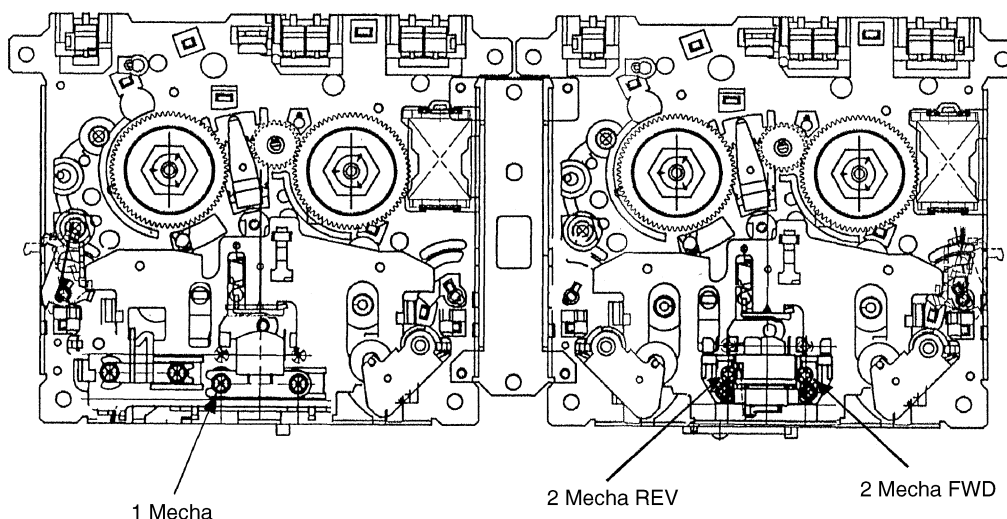
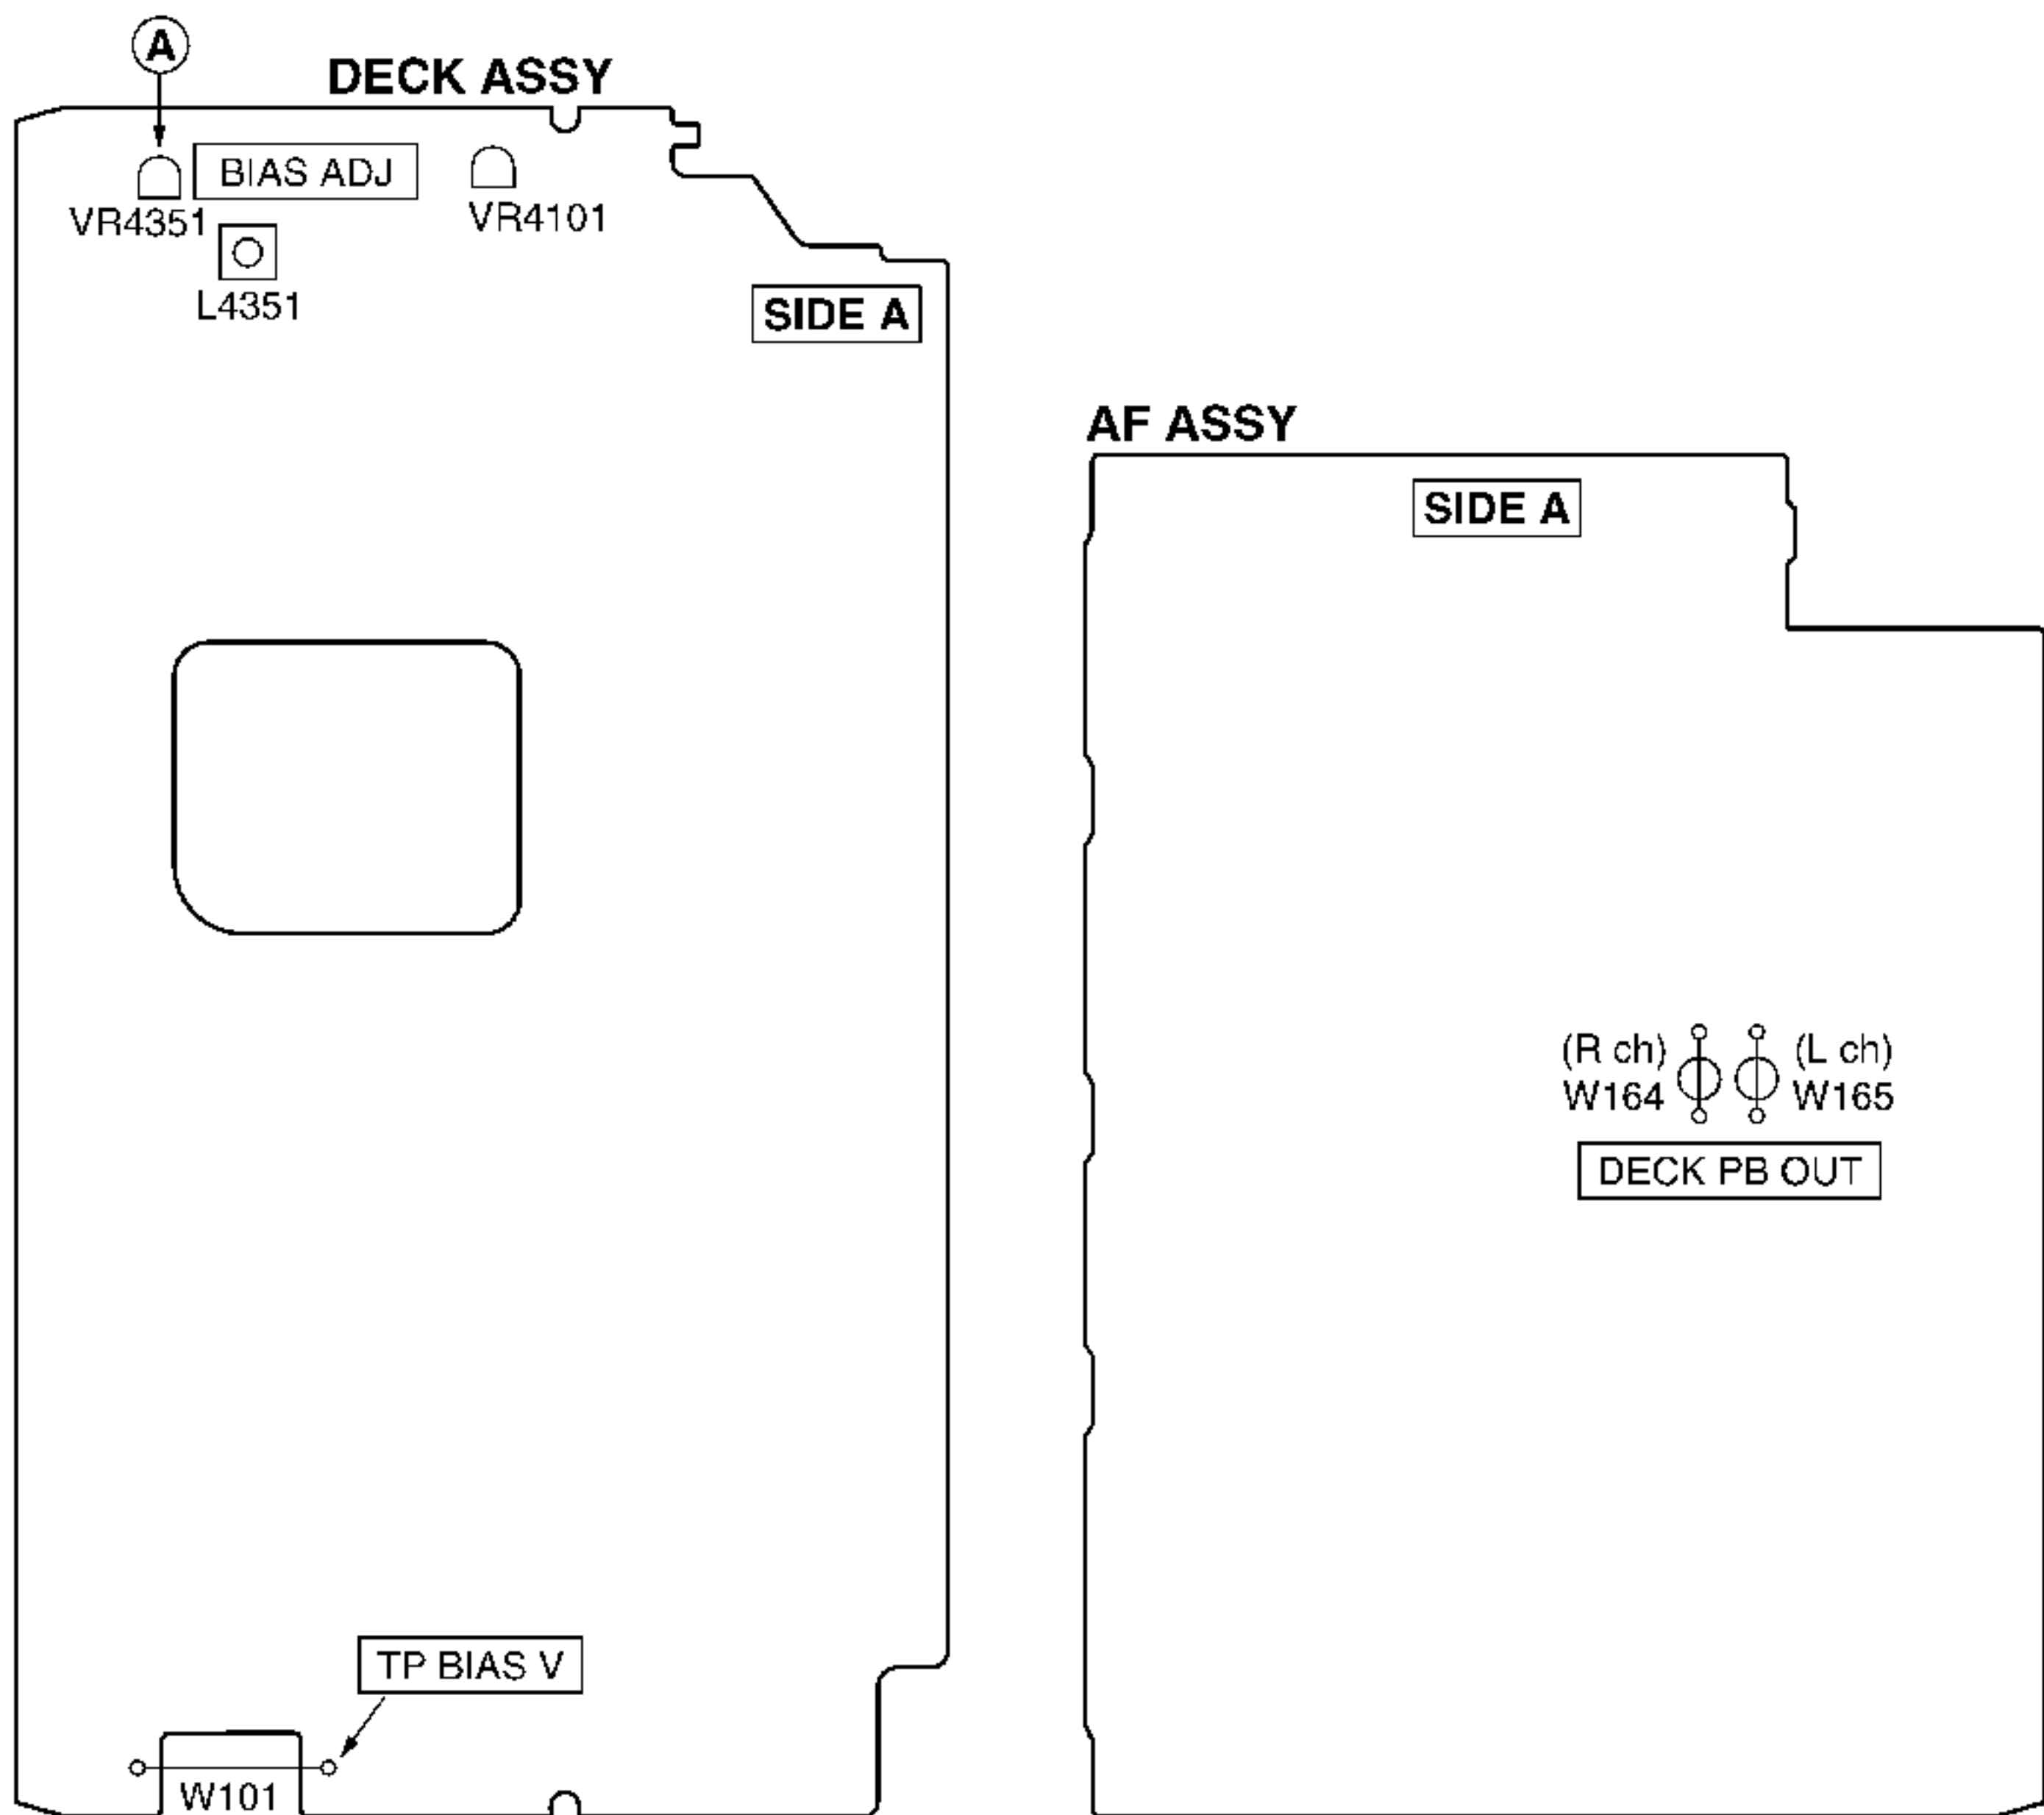

Fig. 4 Head Azimuth Adjustment Screw
Fig. 5 Adjustment Points
- Adjustment points and test points are shown in Fig. 4 and Fig. 5.